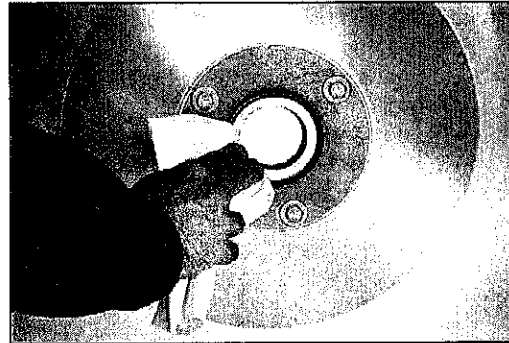

fig. 16
- Use a damp cloth for eliminating remains of detergent or fabric (*fig. 16*).